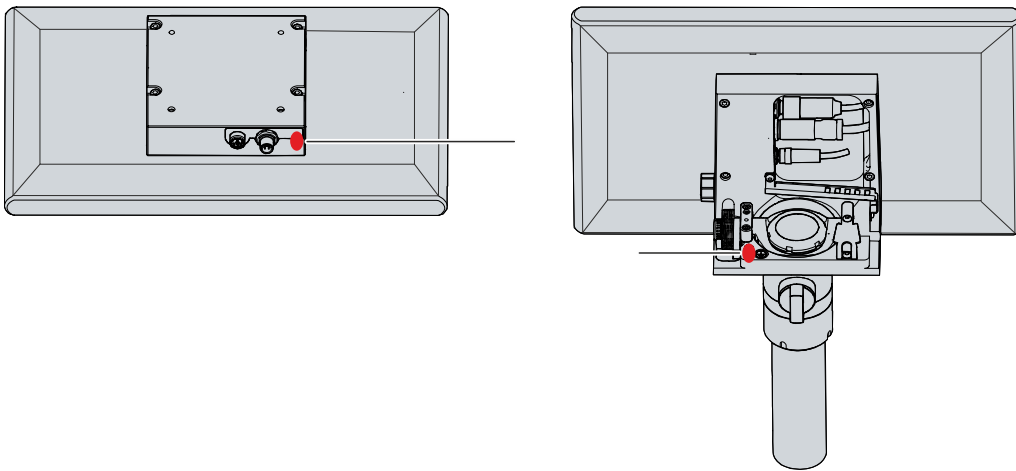

Fig. 27: Protective conductor connection PE
The control panel connections feature a protective conductor connection (PE), which must be used to establish the low-resistance protective earthing and functional earthing of the panel. If the device is equipped with a connection block, the protective conductor connection is located directly next to the connections. For a device with a Beckhoff mounting arm adapter, the connection is located in the connection compartment (see Fig. 27).